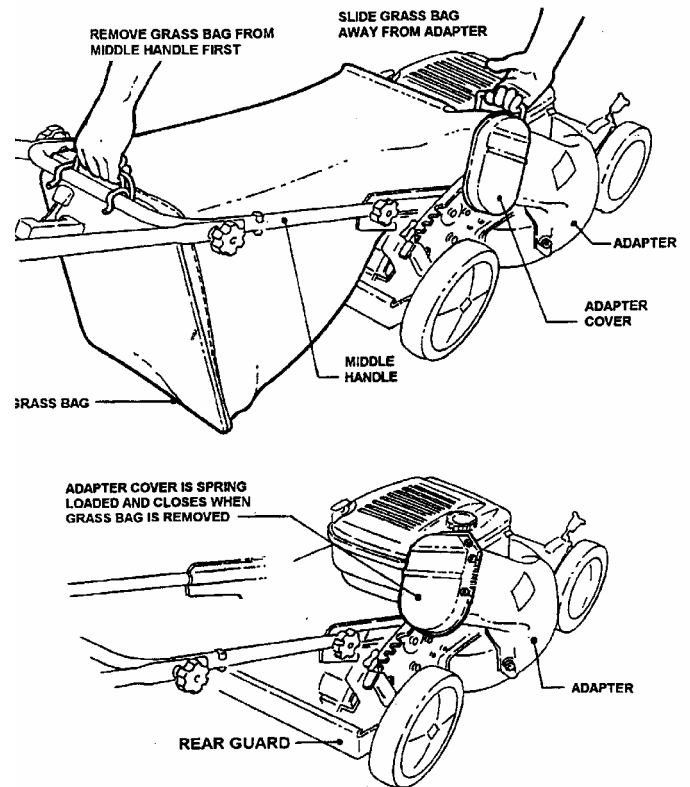

FIGURE 2.10
STEP 2: Install grass catcher by sliding connector over flange of adapter. Attach grass bag hooks over middle handle cross bar. See Figure 2.10.